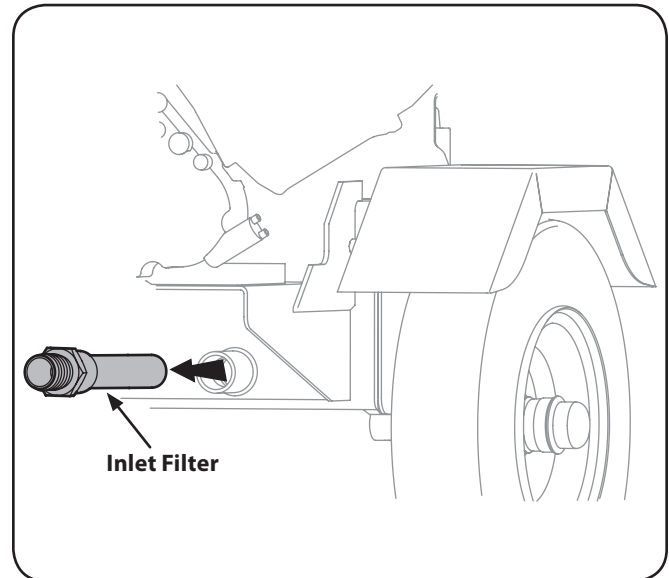

Figure 6-2
3. Carefully unthread the inlet filter and clean it with penetrating oil. See Fig. 6-2.